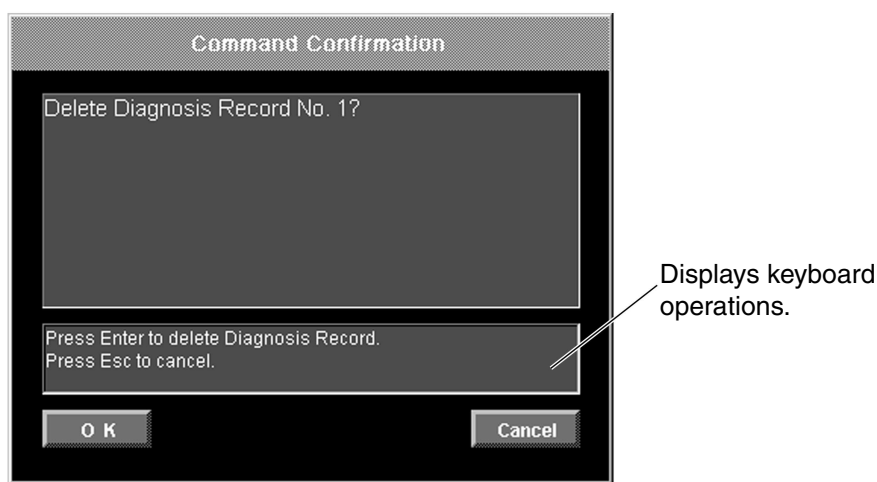

Fig. 22
2. Click the **Delete [F3]** button or press the F3 key on your keyboard. (See fig. 21.) A confirmation message appears. (Fig. 22, 23)
- Click the **OK** button or press the Enter key on your keyboard. (Fig. 22, 23) The selected item is deleted. To cancel deleting the item, click the **Cancel** button or press the Esc key on your keyboard.